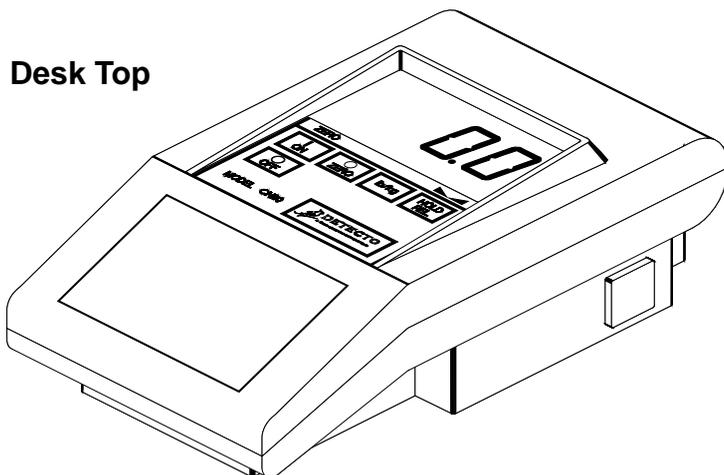

Figure No. 1
Begin the installation by deciding where the instrument is to be mounted. The CN20 may come mounted on a column or you may choose to mount it on a desktop or wall. Refer to Figure no. 1 for illustrations of these various mounting arrangements. **Note:** If you use the mounting bracket on the scale column you may select any of these variations. Two (2) holes are located in the mounting bracket for attachment to the wall or column top. This bracket may be removed or left in place for desktop use. To remove the bracket, pry outward on the bracket at each of the pivot points while pressing the tilt buttons and pulling downward on the bracket.